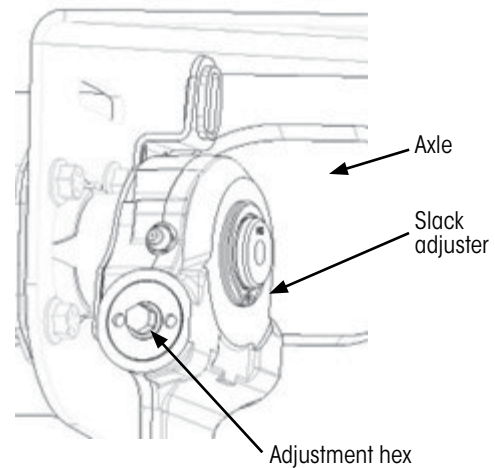

Figure 2: Slack adjuster
4. **Slide** Self-Setting Automatic Slack Adjuster (S-ASA) over the splined end of the s-cam (adjustment hex points away from the air chamber, Figure 2).